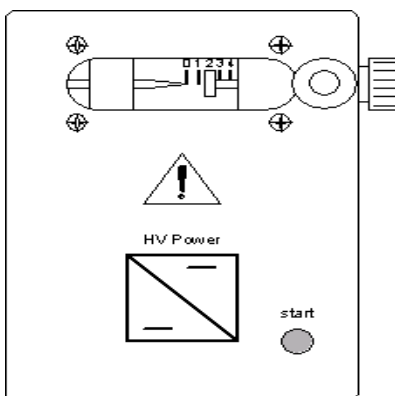

Fig. 1.4: Electrostatic Machine
1. Set the main switch to ON and refer to the experiment as in Fig.1.4;